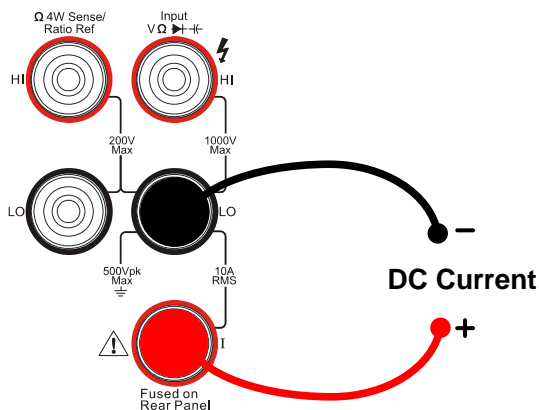

Figure 1-14
1. Connect test leads as Figure 1-14 shown. Red test lead connects the HI Terminal, Black test lead connects the LO Terminal.